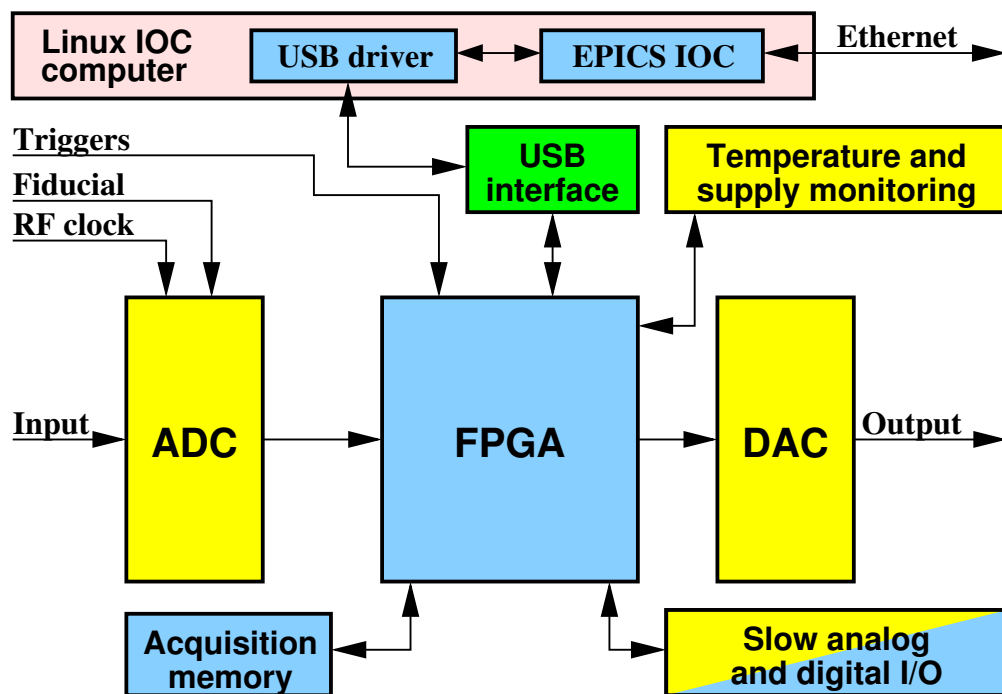

Figure 1: iGp12-470F block diagram
A top-level block diagram of the iGp12-470F system is shown in Figure 1. The main signal processing chain consists of a high-speed 12-bit analog-to-digital converter (ADC), a field programmable gate array (FPGA), and a high-speed 12-bit DAC, all driven by the radio frequency (RF) clock. In addition to performing real-time control computations, the FPGA interfaces to a number of on-board devices, such as high-speed data acquisition memory (static random access memory (SRAM)), low-speed analog and digital input/output (I/O), as well as temperature and supply voltage monitors. In turn, the FPGA uses an internal universal serial bus (USB) connection to communicate to an embedded input-output controller (IOC) computer housed in the same chassis. The IOC runs the Linux operating system and is connected to the overall control system via the Ethernet.